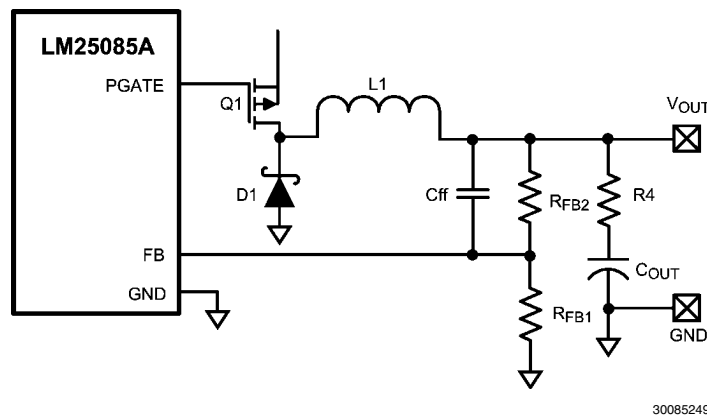
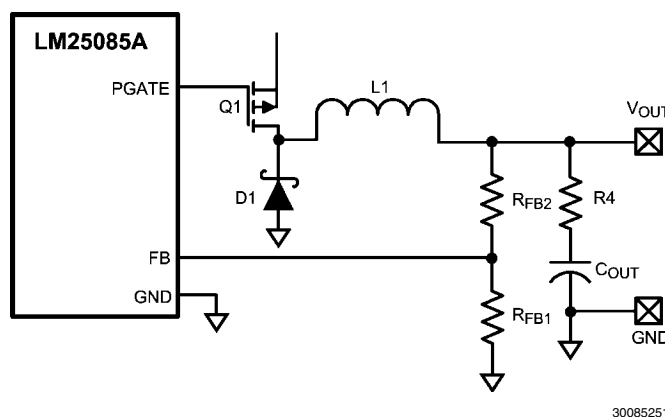

FIGURE 9. Reduced Ripple Configuration
FIGURE 10. Lowest Cost Ripple Generating Configuration
**a) Reduced ripple configuration:** In *Figure 9*, R3, C1 and C2 are removed (compared to *Figure 4*). A low value resistor (R4) is added in series with  $C_{OUT}$ , and a capacitor (Cff) is added across  $R_{FB2}$ . Ripple is generated at  $V_{OUT}$  by the inductor's ripple current flowing through R4, and that ripple
**b) Lowest cost configuration:** This configuration, shown in *Figure 10*, is the same as *Figure 9* except Cff is removed. Since the ripple voltage at  $V_{OUT}$  is attenuated by  $R_{FB2}$  and  $R_{FB1}$ , the minimum ripple required at  $V_{OUT}$  is equal to: